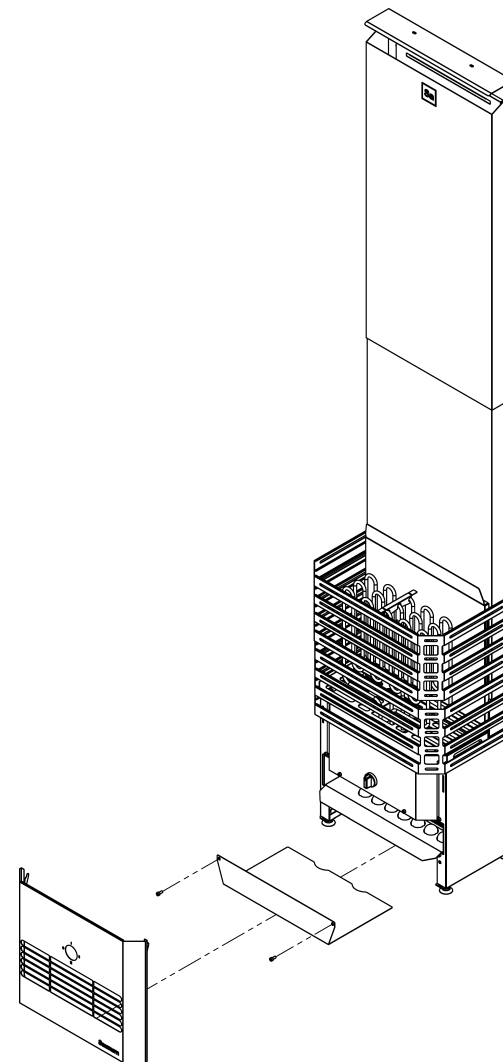

Figure 4: Access to electrical unit.
- To access the electrical connections of the device, it is necessary to open the panel below the salt ball holder. To open the panel, completely loosen the two bolts under the device (Figure 4).
Look at Figure 3.1 till Figure 4.